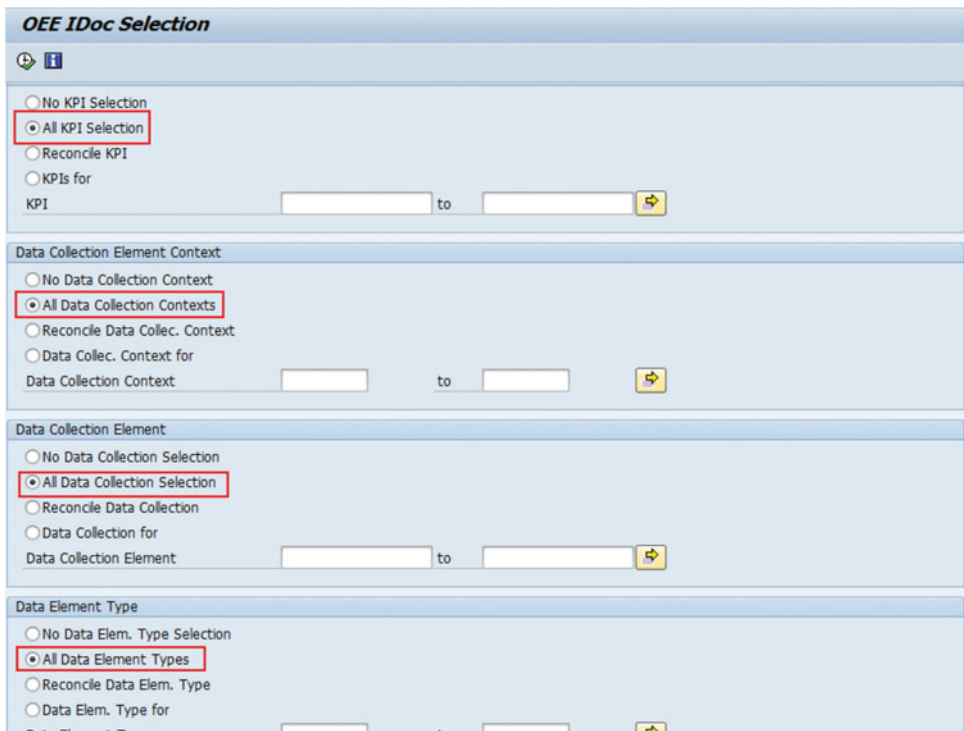

Figure 4-21. Transfer configuration data to OEE
3. Select either the “All” option or select specific configuration data to send only that data; select the “Reconcile” option when the data already transferred is changed or deleted in SAP ERP, as shown in Figure 4-21.